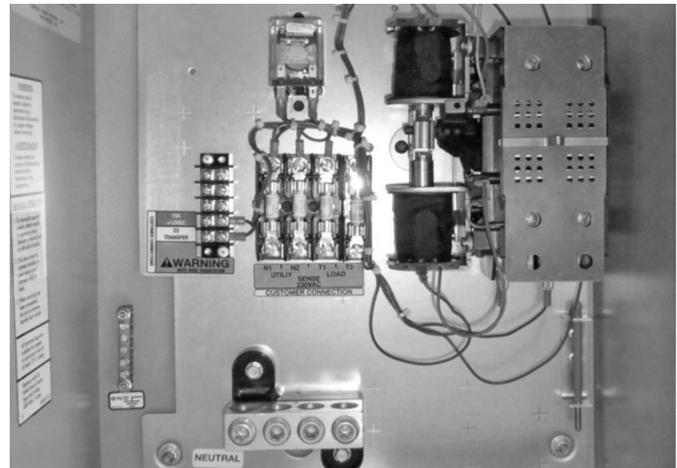

Figure 2-5.
- After mounting the switch, remove the cover to make the electrical connections (see Figure 2-5).